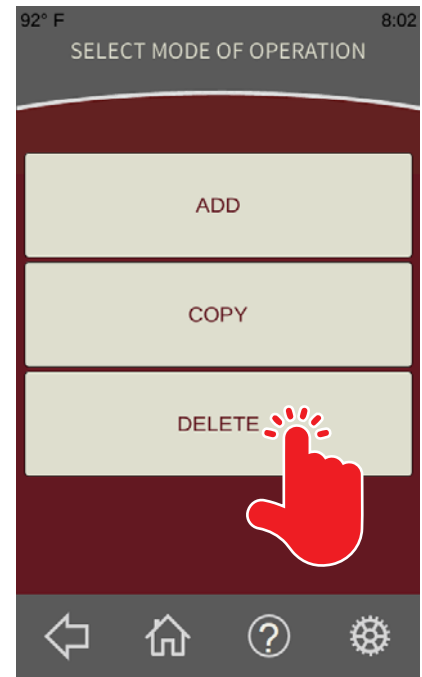

Fig. 34
2. From the **Recipe Steps Screen** (Fig. 34), touch the Delete button. The **Standard Recipe Run Screen** should be displayed.